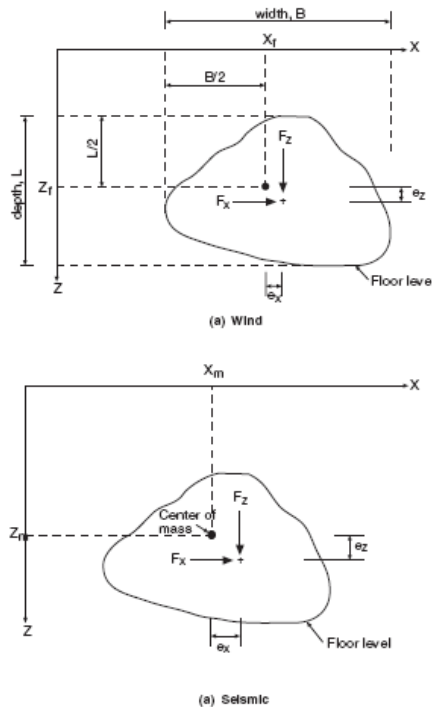

Figure 5-11 Floor dimensions and lateral load point of application
- Each floor width, depth, and weight are computed based on the input geometry and assigned properties. The floor width is the projected dimension along the X-axis while the depth is the projected dimension along the Z-axis (see Figure 5-11). Floor weight is the weight of all members contained in the plane of the floor level plus the weights of the columns tributary to the floor level. Any panel loads assigned under the SELF load case will also be included in the floor weight.